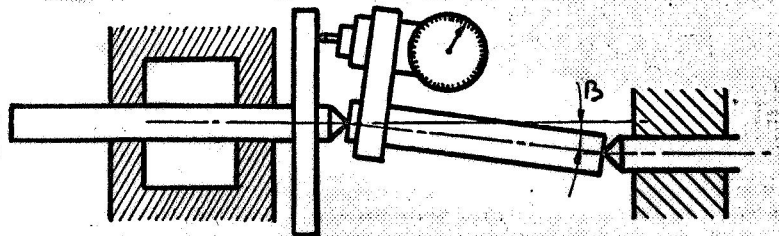

Figure 7
3. Mount between the centers a mandrel the same length as the machined part. In most cases, the part itself is sufficient for this operation. Attach an indicator to the part or mandrel with a support and clamp, which are generally furnished with the comparators as shown in Figure 7.